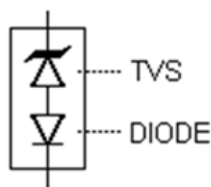
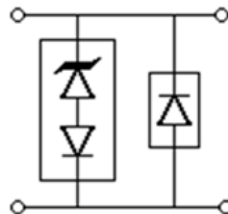
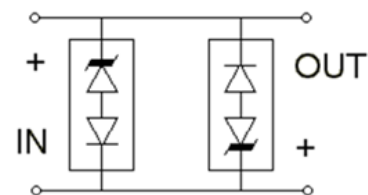

Figure 4
Figure 5
Figure 6
* TVS devices are not typically used for dc power dissipation and are instead operated $\leq V_{WM}$ (rated standoff voltage) except for transients that briefly drive the device into avalanche breakdown (V_{BR} to V_C region) of the TVS element. Also see Figures 5 and 6 for further protection details in rated peak pulse power for unidirectional and bidirectional configurations respectively.
The TVS low capacitance device configuration is shown in Figure 4. As a further option for unidirectional applications, an additional low capacitance rectifier diode may be used in parallel in the same polarity direction as the TVS as shown in Figure 5. In applications where random high voltage transients occur, this will prevent reverse transients from damaging the internal low capacitance rectifier diode and also provide a low voltage conducting direction. The added rectifier diode should be of similar low capacitance and also have a higher reverse voltage rating than the TVS clamping voltage V_C .
If using two (2) low capacitance TVS devices in anti-parallel for bidirectional applications, this added protective feature for both directions (including the reverse of each rectifier diode) is inherently provided in Figure 6. The unidirectional configurations in Figure 5 and 6 will both result in twice the capacitance of Figure 4.